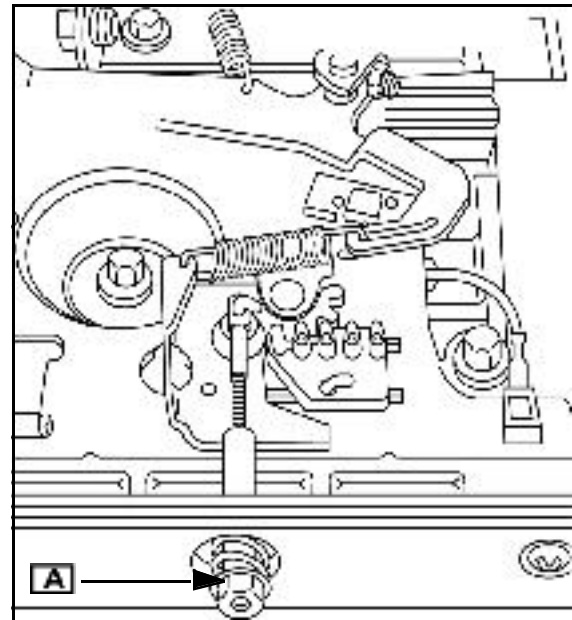

Fig. 41
1. Turn the speed regulator nut (**A**) Fig. 41) until the desired top no load speed is achieved.